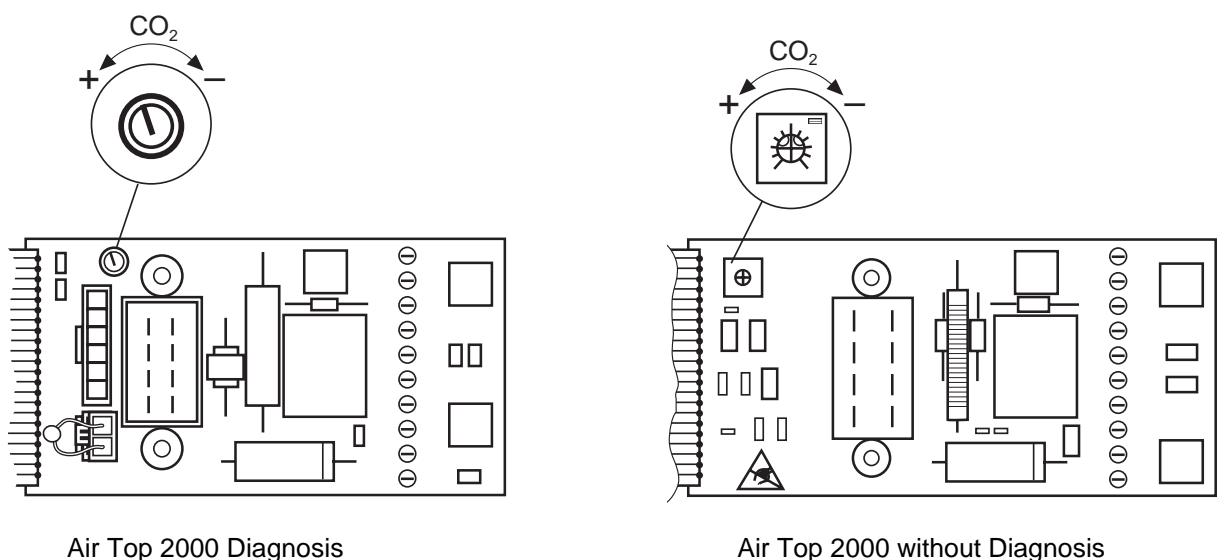

Fig. 601 Adjustment of CO₂ Contents
The CO₂ contents of the exhaust is adjusted with the potentiometer on the control circuit board. The air heater is preset by the manufacturer with respect to the combustion and heating air fan fitted. After adjustment by the manufacturer the potentiometer is in center position (Fig. 601). After an inadvertent loss of this position it is sufficient to restore its original position.
4. Adjust desired CO₂ contents (Fig. 601).